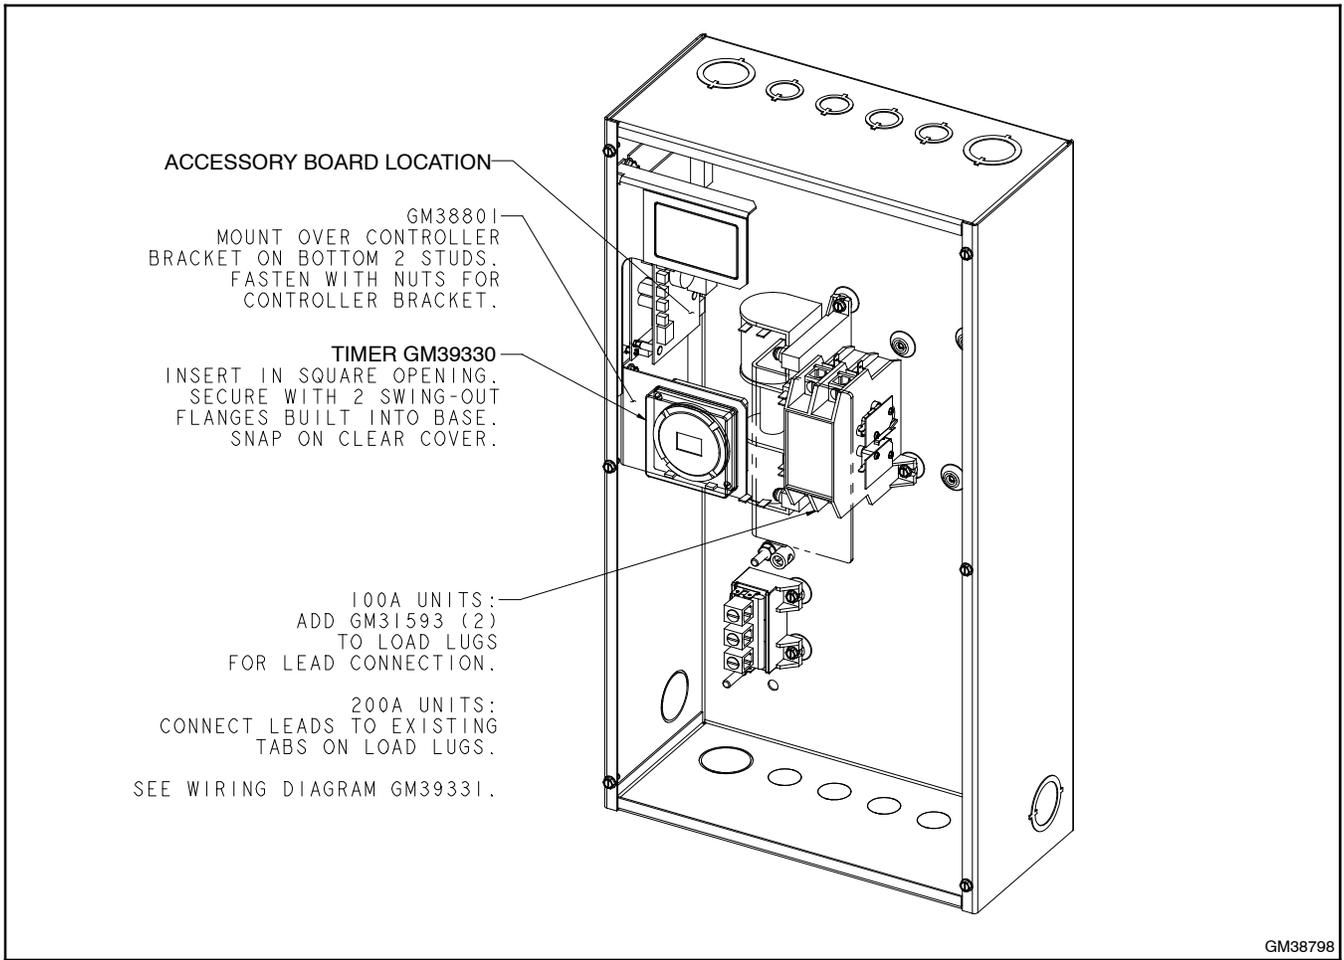
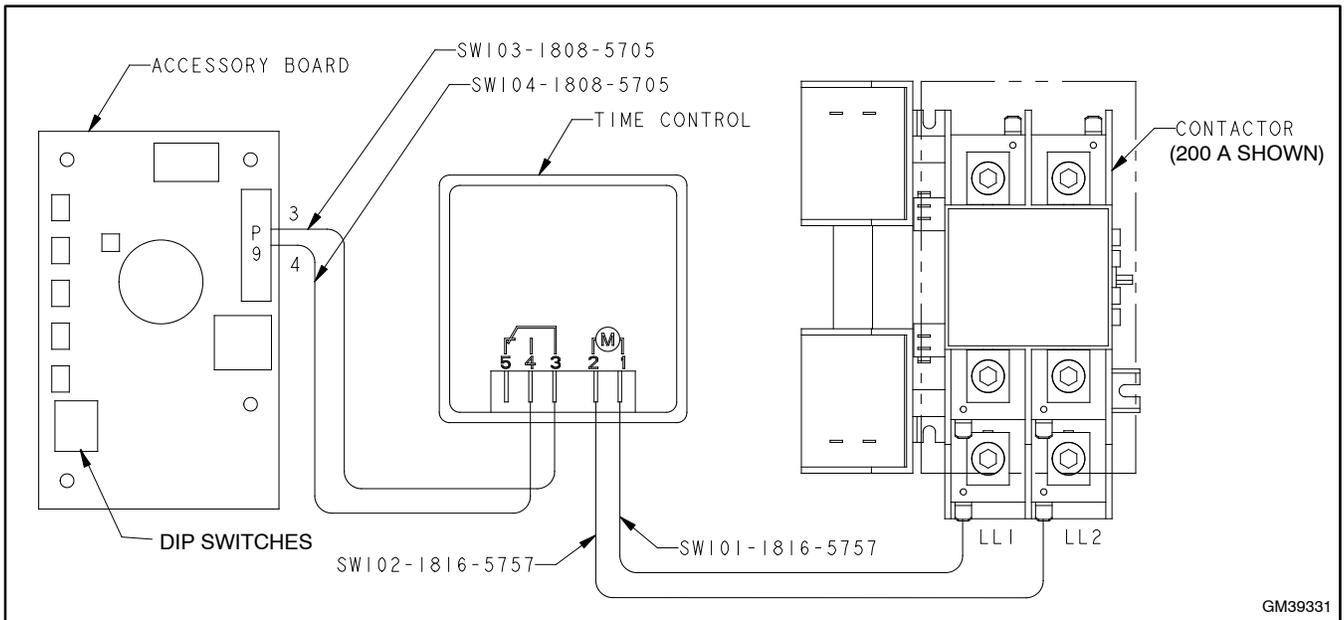

Figure 22 Mounting
Figure 23 Wiring Diagram
Mount the programmable exerciser on the bracket provided with the kit as shown in Figure 22.
1. Install the mounting bracket as shown in Figure 22.
2. Use the leads supplied with the kit to connect the exerciser according to the wiring diagram in Figure 23.
Set DIP switch #2 on the Accessory Board to select loaded or unloaded programmed exercise runs. See Figure 22 and Figure 23 for the location of the DIP switches on the accessory board.